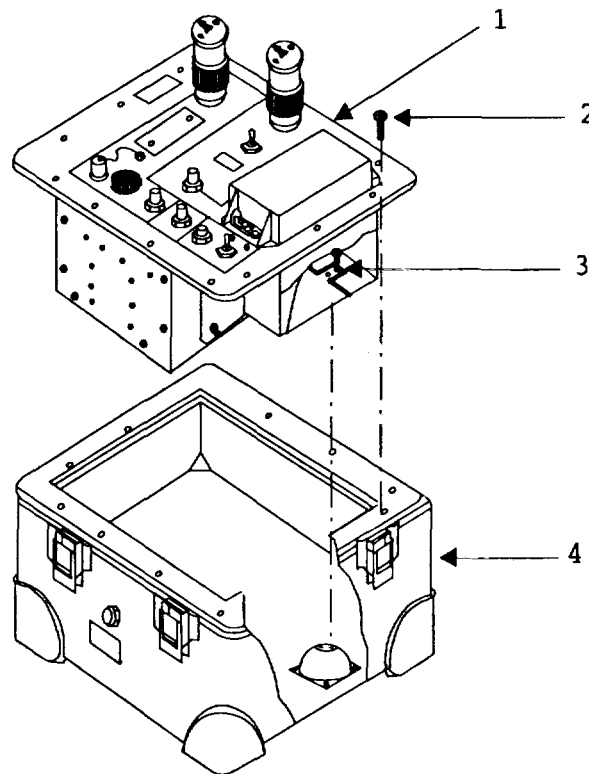

FIGURE 5-21. FTS Assembly.
- b. Install front panel assembly (1, Fig. 5-21) into case bottom (4).
- c. Using No. 2 cross-tip screwdriver, install 14 screws (2) securing panel assembly to case bottom.
- d. Using No. 2 cross-tip screwdriver install two screws (3) in battery compartment securing panel assembly to shock absorber located in case bottom.